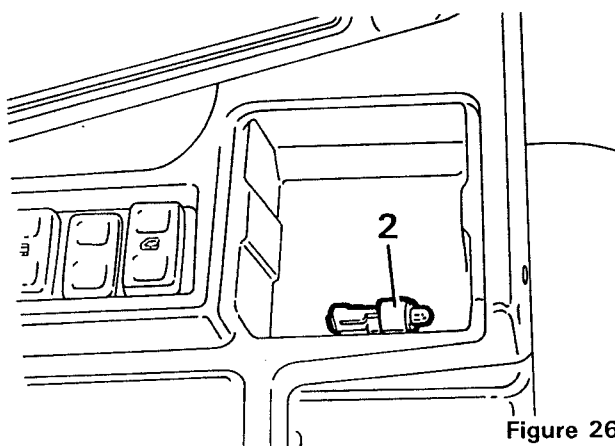

Figure 26
2. Disconnect the ash tray illumination bulb holder from the centre console, see Figure 26.